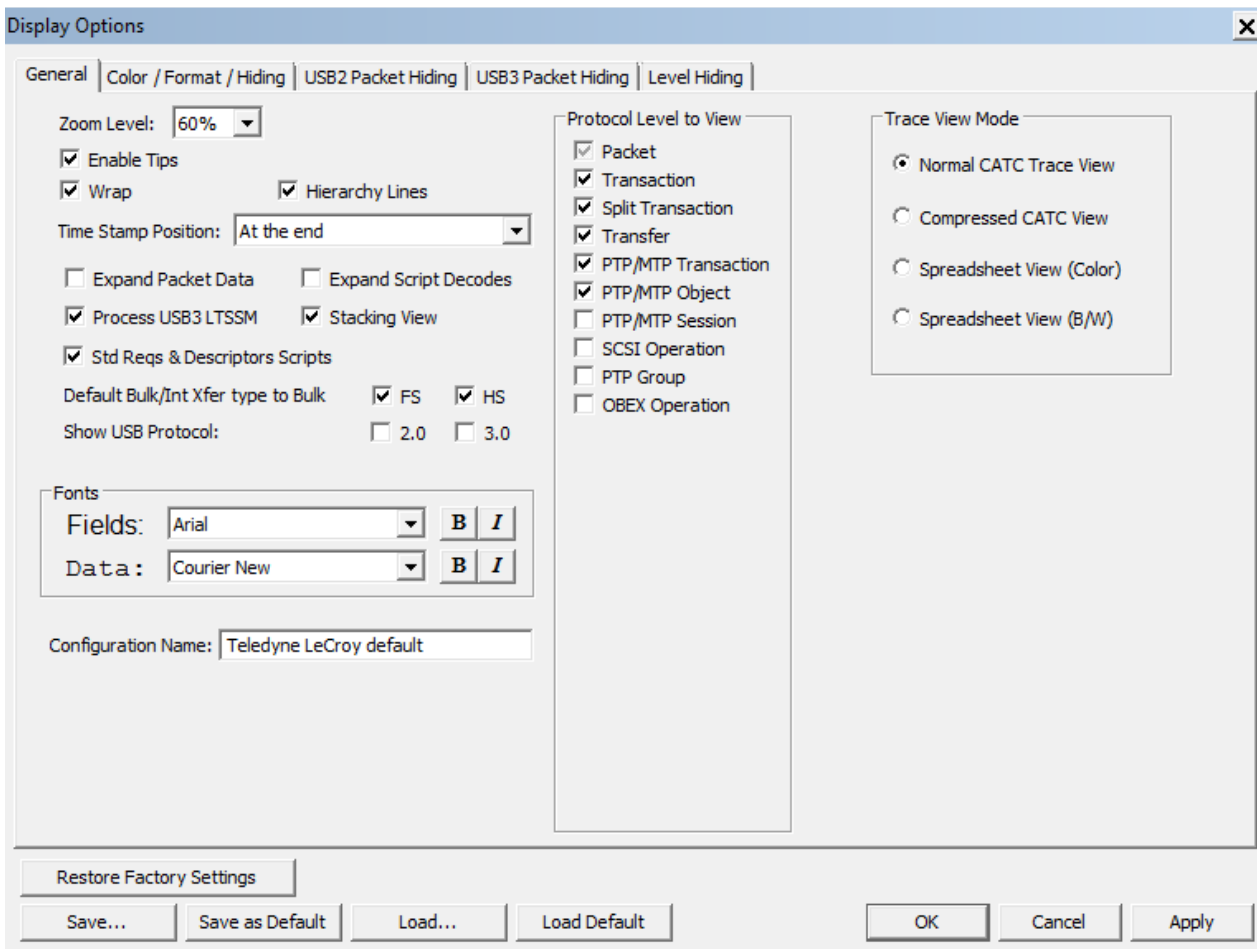

Figure 5.31: Display Options General Dialog
1. Select **Display Options** under Setup to display the Display Options General window (see Figure 5.31 on page 146).